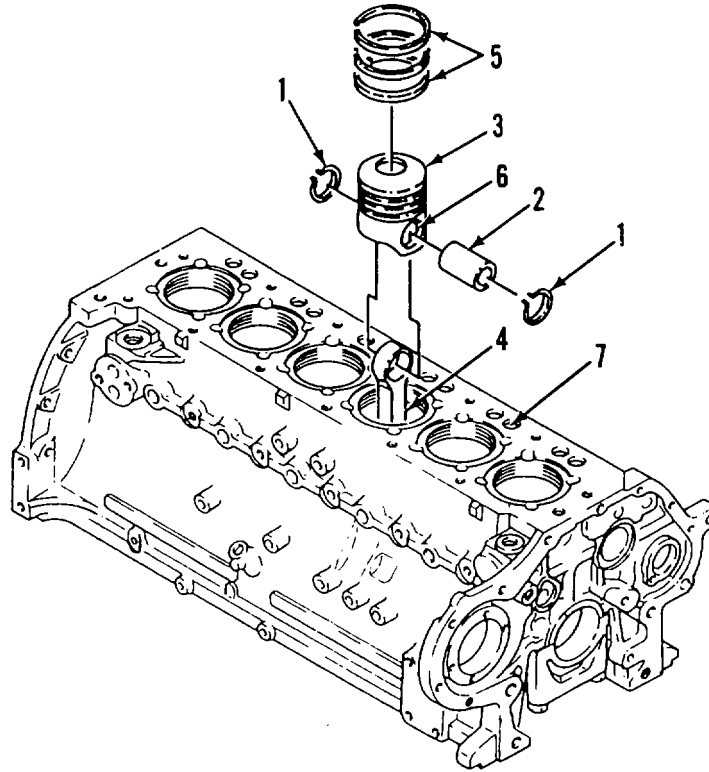

Figure 4-8. Piston
- (1) Remove piston pin circlips (1, Figure 4-8), piston pin (2), and piston (3) from connecting rod (4).
- (2) Tag piston (3) to its cylinder order.
- (3) Remove piston rings (5) from piston (3).